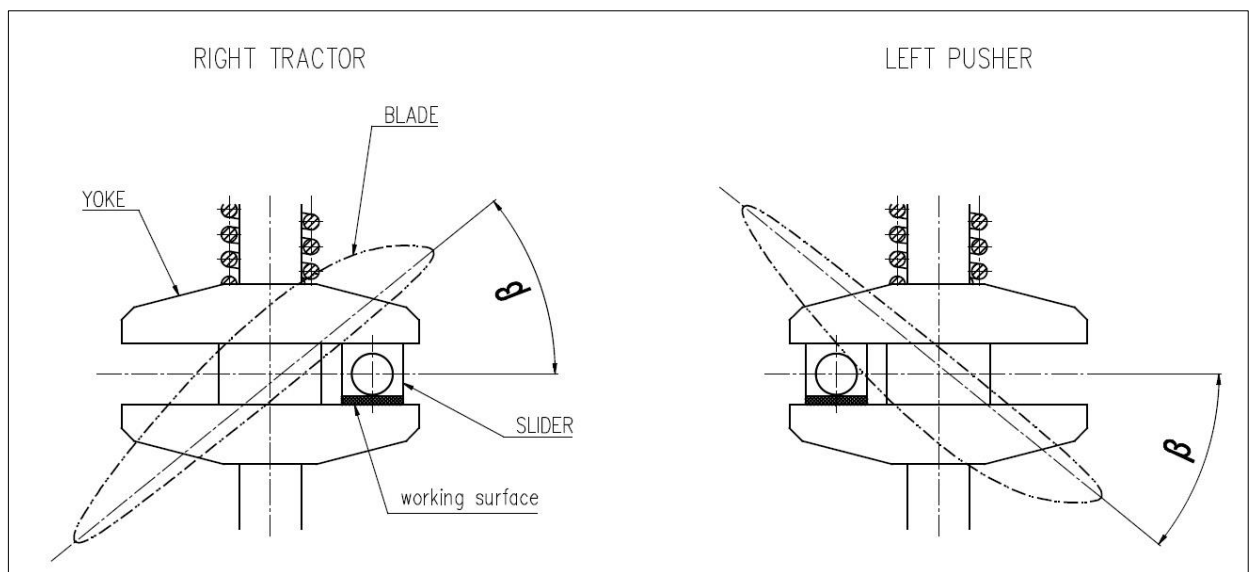
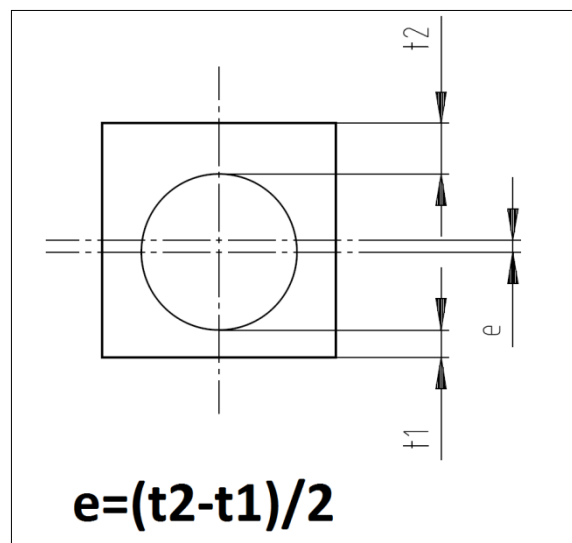

Fig. C-15 Pitch setting mechanism schema
Fig. C-16 Slider eccentricity measurement
- 3) Prepare sliders (26) for installation. The eccentricity of the holes in the sliders is essential to the adjustment of the blade angles Fig. C-15. Refer to Fig. C-16 for slider eccentricity measurement. Once the blade angles are adjusted the sliders must not be mixed between the blades or turned on the pins.